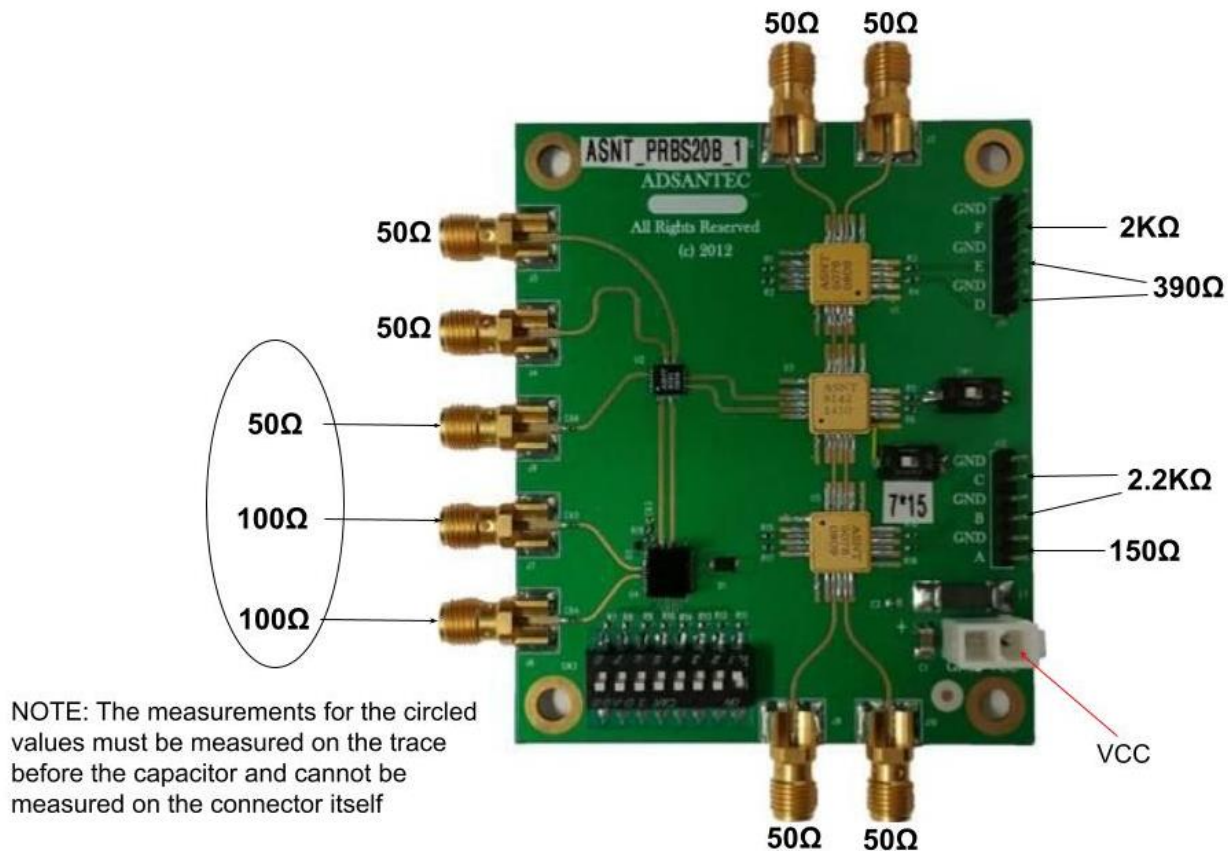

Fig. 5. Ohmic Measurements diagram
1. Measure ALL I/O's on board according to **Fig. 5** in relation to VCC.